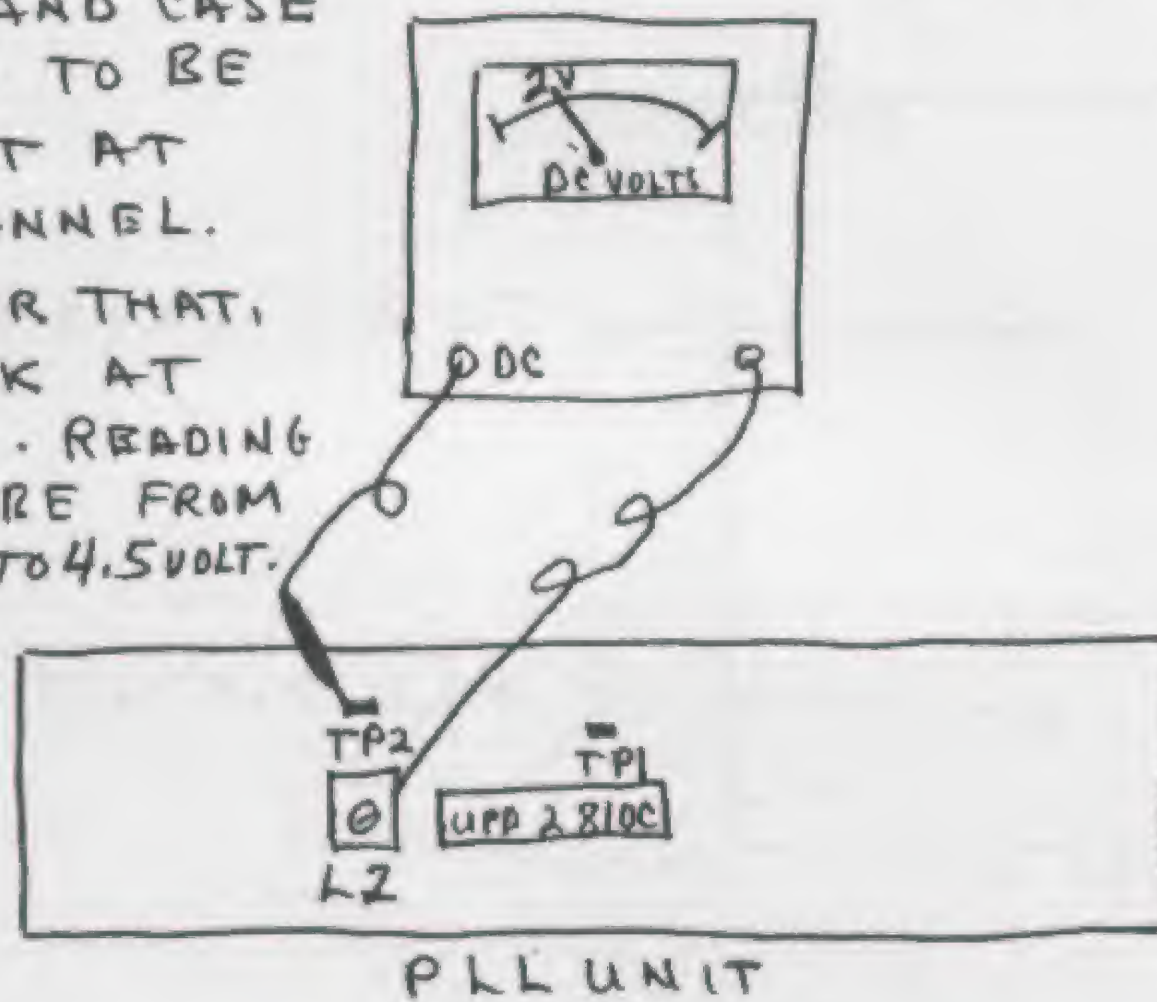

FIG 3 (TUNE UP PLL UNIT) NO.1
1. Prepare the tester and connect it between test point 2 (TP2) and any minus (-) ground (earth). Next, set to channel 1 position - the tester range should be 2 - 10 Volts (DC).
"L2" should be tuned up as the tester indicates 2 Volts. As you are tuning up the coil, the channels should be checked individually 1 thru 40 so that as the coil is being tuned, the tester will show a balanced change from 2 Volts to about 4.5 Volts (DC) on each of the channels. (see figure 3).
- 1.1 Re-tune the coils, L208 and L209 and turn VR10 shown as fig. 3. Then you get 5 to 6W.
Turn VR1 shown as fig. 3.